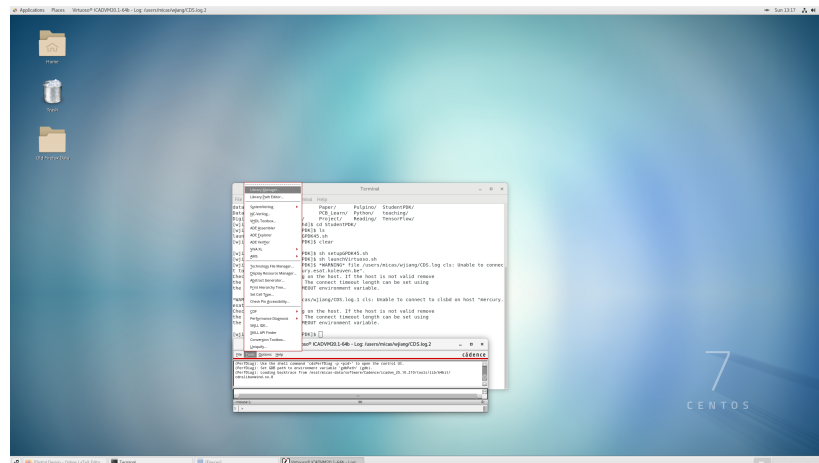

Figure 1: Cadence start page
1. **Open Virtuoso** as explained in the main document. You should see the Virtuoso window popping up in a few seconds. Click Tools/Library Manager to open up the library manager (Figure 1).